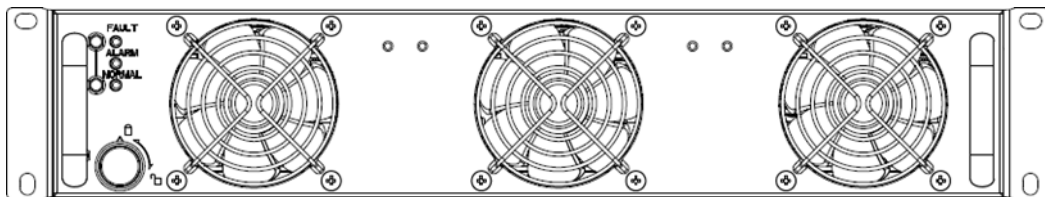

Fig. 5-5 Module insertion
2. Put the UPS module in the cabinet module slot. Push the module (Fig. 5-5) along the slot into the cabinet until the module is inserted properly, then the indicator will flash.
3. Fix the module with screws (1) at the positioning screw holes;
4. Switch on the module_ON switch (3) at the left of the module panel, then the red indicator (2) will off.